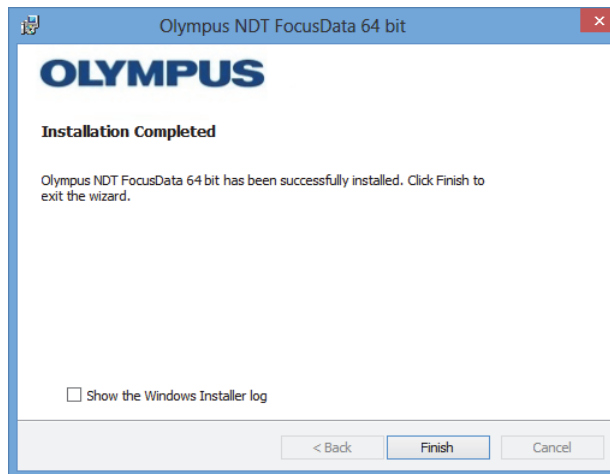

Figure 1-8 The Installation Complete page
7. On the **Installation Complete** page, click **Finish** (see Figure 1-8 on page 17).